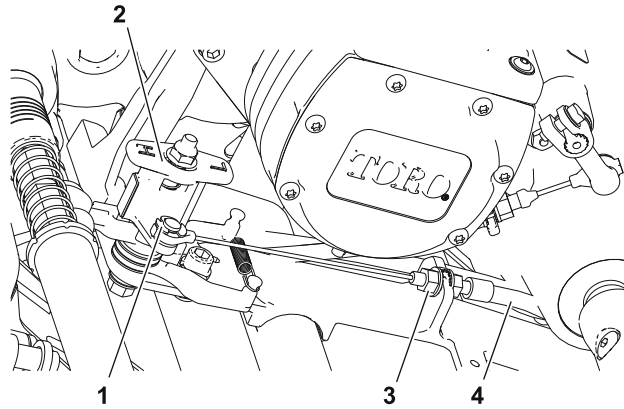

Figure 75
- A. Move the reel selector knob to the high-reel-speed position; refer to Figure 75.